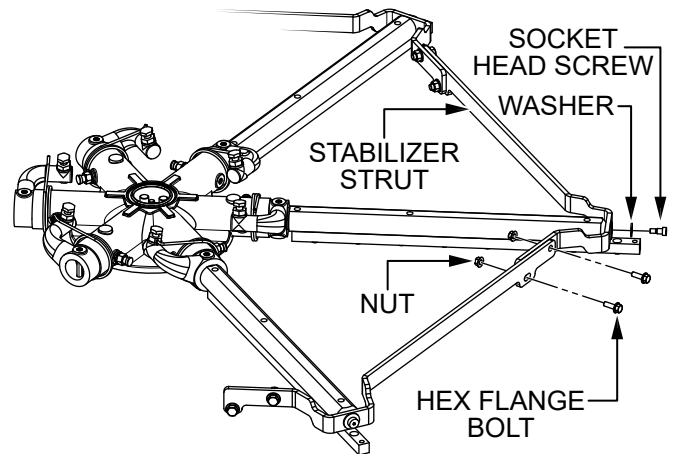

Figure 80. Stabilizer Ring Removal
1. Remove the hardware securing the stabilizer struts to the trowel arms (Figure 80). Set the struts and hardware aside.